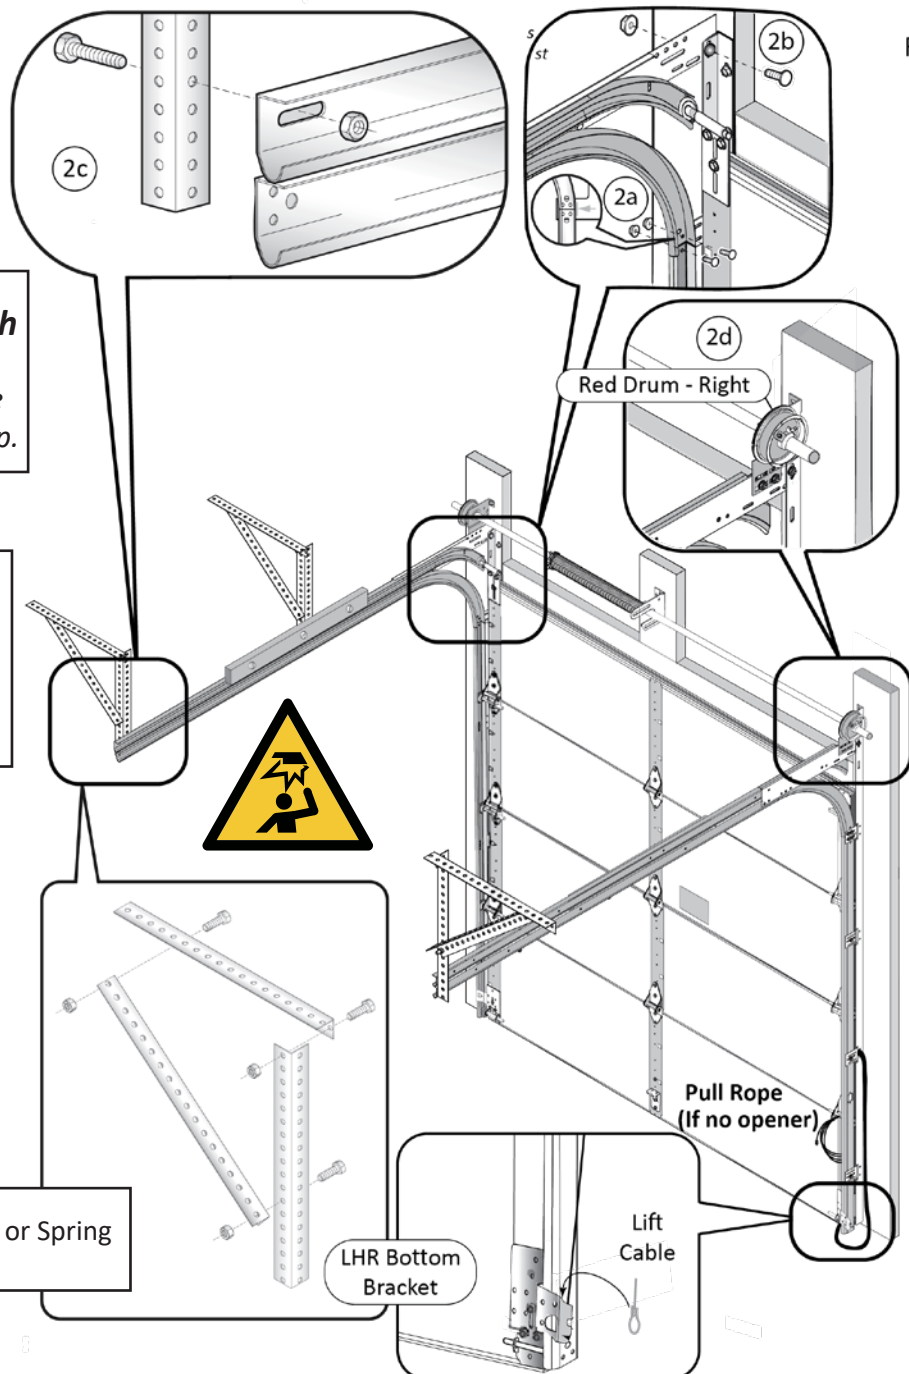

Figure 2
Step 2: Attach the Track Hangers as shown on page 27 (left & right). Do not fasten to end of track. Fasten next to the Junction Plate as shown in Fig 2 (right shown).